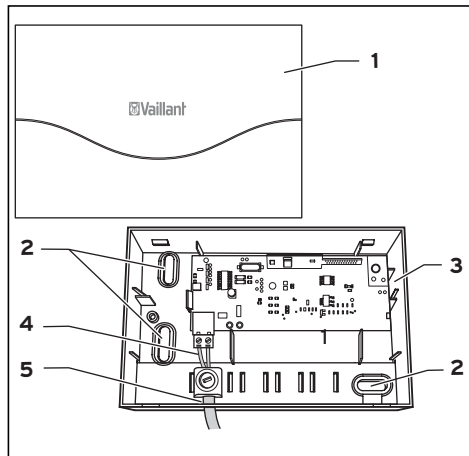

Fig. 9.2 Mounting the receiver
- Drill two holes **(3)** of 6 mm diameter (as shown in fig. 9.2) and put in the supplied wall plugs.